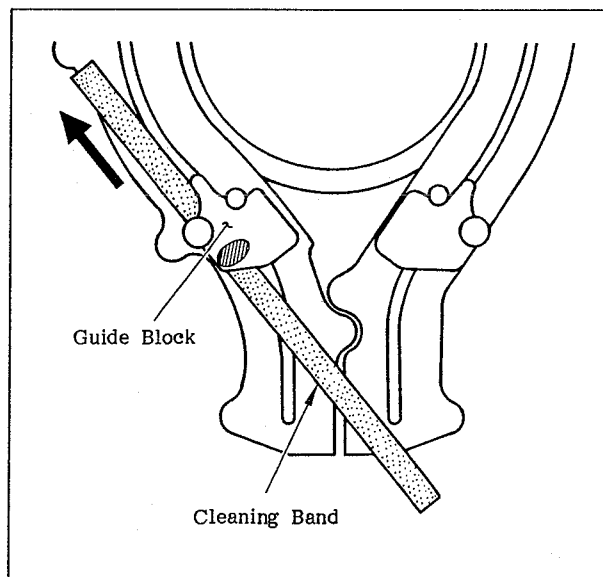

Fig. 5-11 Cleaning the Slider Guide Blocks (2)
4. Pull out the cleaning band in the direction of the arrow while holding down the shaded portion of the guide block shown in Fig. 5-11. Clean all the other slider guide blocks in a similar manner.